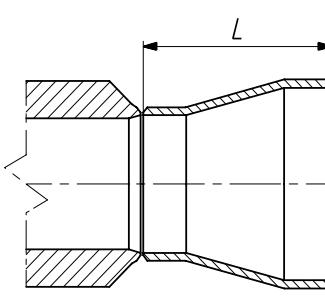

Fig. 7. Reduction stub
•) - execution with reduction stubs as per Fig. 7.